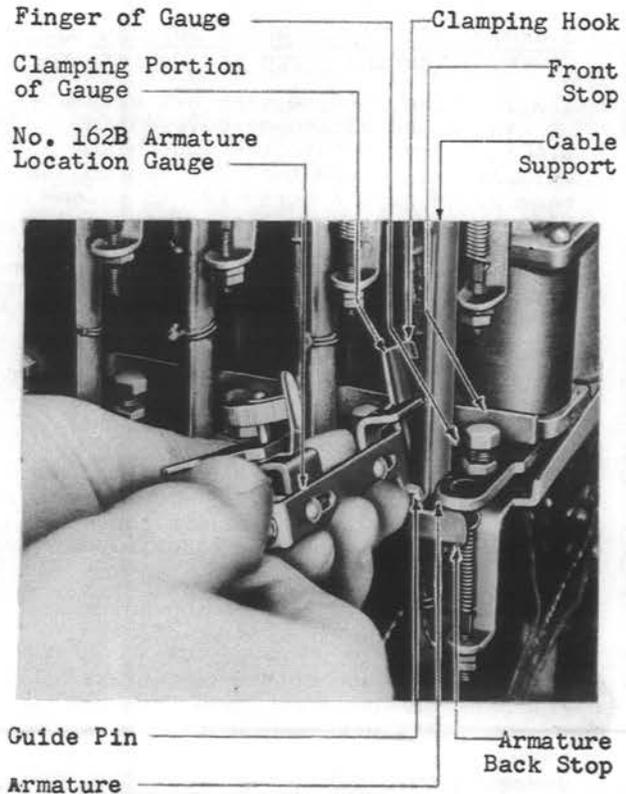
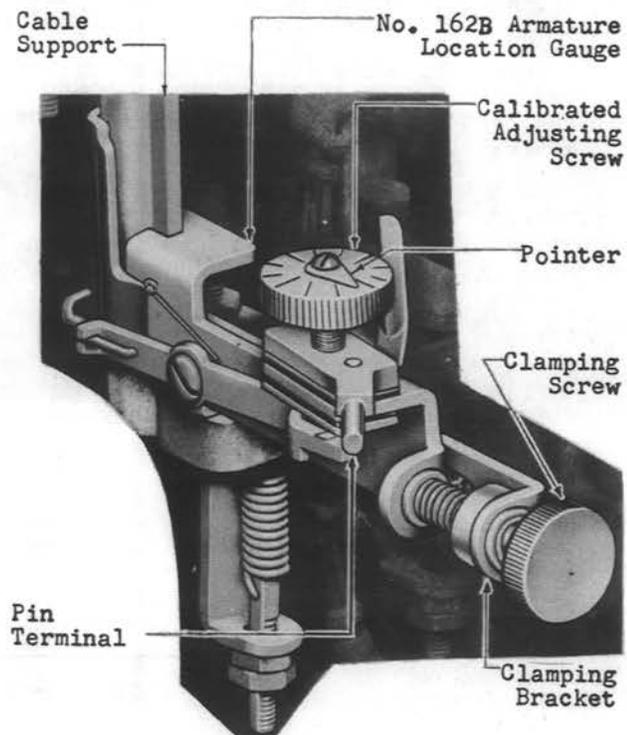

Fig. 20 - Method of Mounting No. 162B Armature Location Gauge
Fig. 21 - No. 162B Armature Location Gauge Mounted on Cable Support
(14) Mount the No. 162B armature location gauge on the cable support of the clutch. To do this back off the clamping screw until there is about 1/2" between the undersurface of the head of the screw and the clamping bracket. With the calibrated adjusting screw uppermost, hold the gauge and insert it between the clutch being adjusted and the clutch to the left, tilting the clamping portion of the gauge slightly to the left and downward toward the magnets and engaging the guide pin in the angle formed by the armature backstop as shown in Fig. 20. Take special care that, with the gauge in this position the finger of the gauge is under the front stop and above the armature. If it is not in this position the finger may be damaged. Then rotate the gauge to the right to a vertical position and with the index finger of the left hand acting as a guide, hook the clamping hook around the cable support. Hold the gauge in this position with the index finger and tighten the clamping screw securely as shown in Fig. 21.
(15) Disconnect the cord from the screw gap gauge and transfer it to the pin terminal of the armature